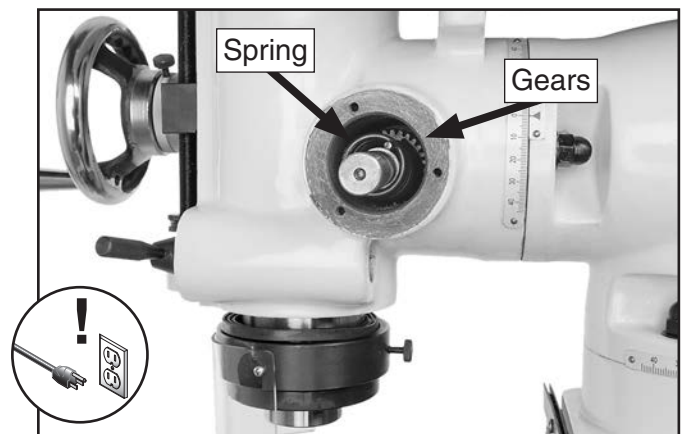

Figure 48. Right side of quill gear shaft exposed.
5. Clean away any grime from inside the cavity and the gear shaft, then use the nozzle of a grease gun to apply a small amount of lubricant to the teeth of the gear shaft and the quill pinion (see **Figure 48**).